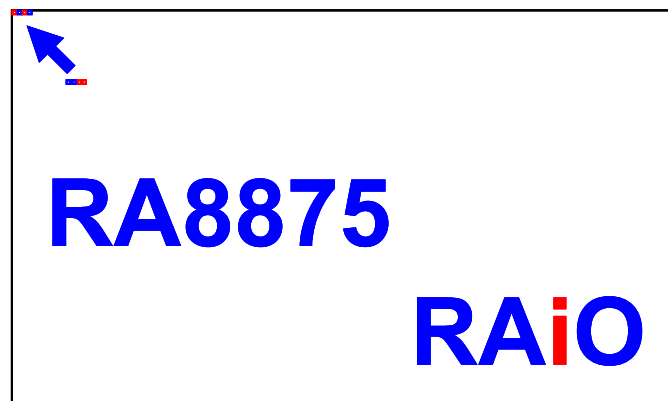

Figure 7-11 : The Display with Graphic Cursor
5. Writing to GCHP0(REG[80h]), GCHP1(REG[81h]), GCVP0(REG[82h]) and GCVP1(REG[83h]) to change graphic cursor position. The Figure 7-11 shows the display with graphic cursor.